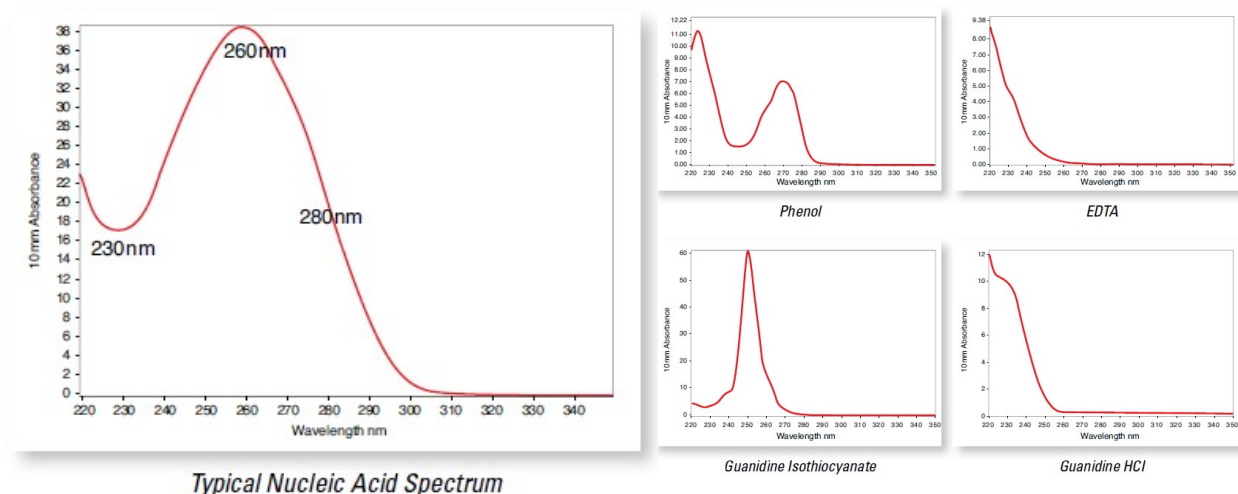

Figure 3. Examples of NanoDrop spectrophotography with high-purity genomic DNA (left) and various possible contaminants (right).
- 4.14. Review the spectral image and the absorbance ratios to assess the purity of the sample using the following guidelines (refer Figure 3):